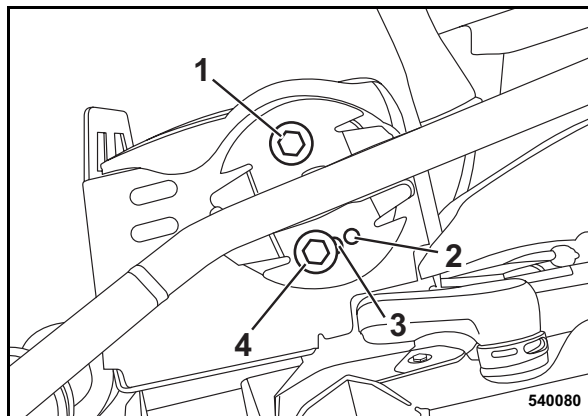

Fig. 11
The steering bow can be adjusted to the height of the operator by using the bore holes (2), (3) and (4) (Fig. 11):
- (2) lowest position
- (3) middle position
- (4) highest position
- Loosen the screws (1) on both sides
- Loosen the screws (4) on both sides and pull them out.
- Tighten screws (1) and (4) on both sides.